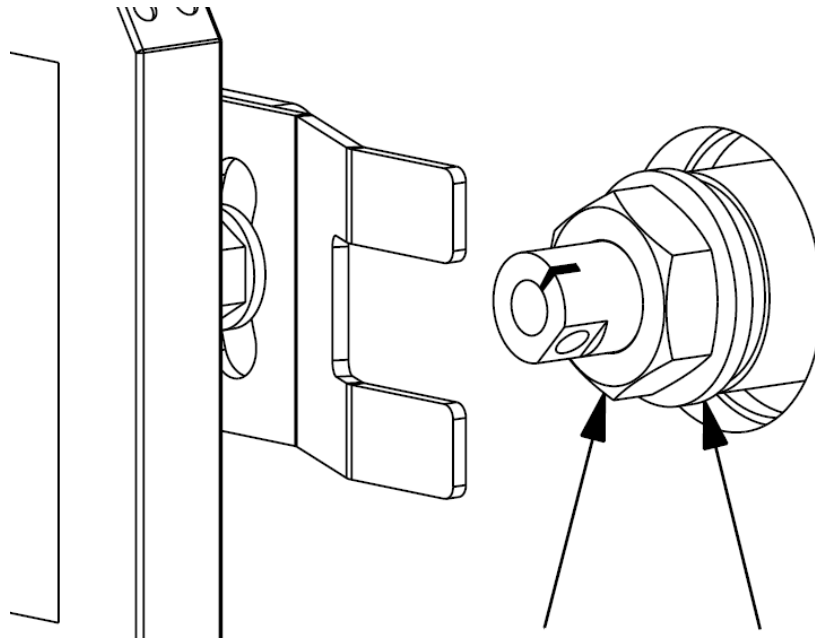

Figure 7-12: Sensor shaft fastener removal
28. Install the washer and nut on the sensor shaft in the signal conditioner enclosure. Reference **Figure 7-12**.